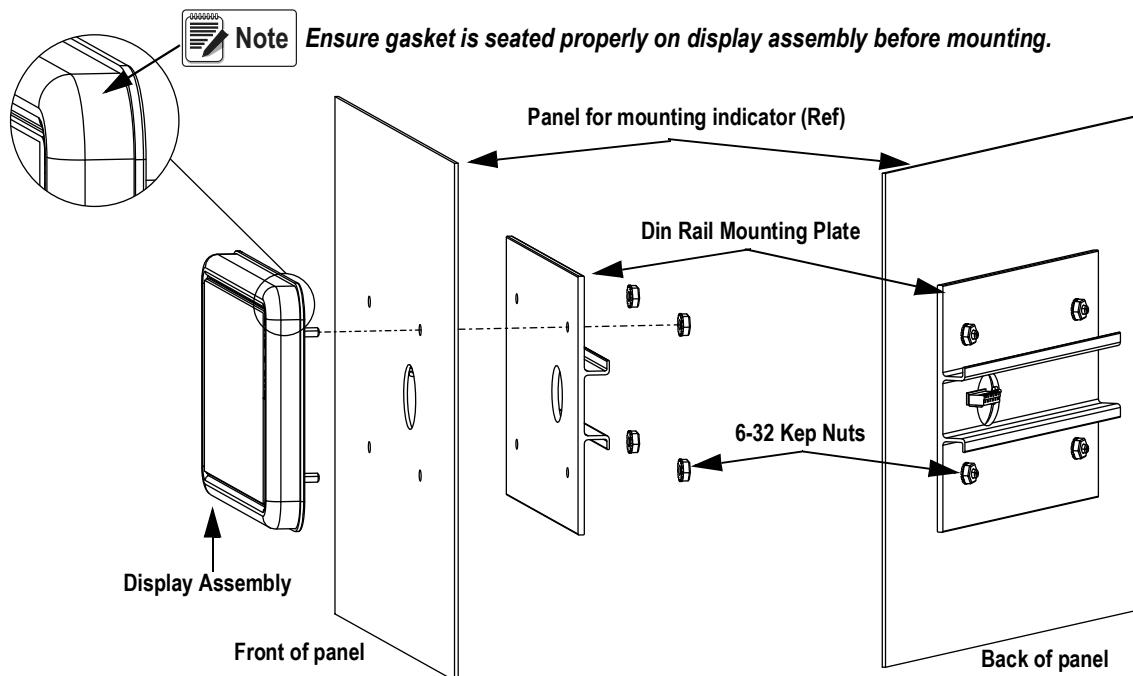

Figure 2-3. Mounting Display Assembly
4. Loosen and remove the four keps nuts securing the DIN rail and display assembly to the panel, see Figure 2-3 on page 13.